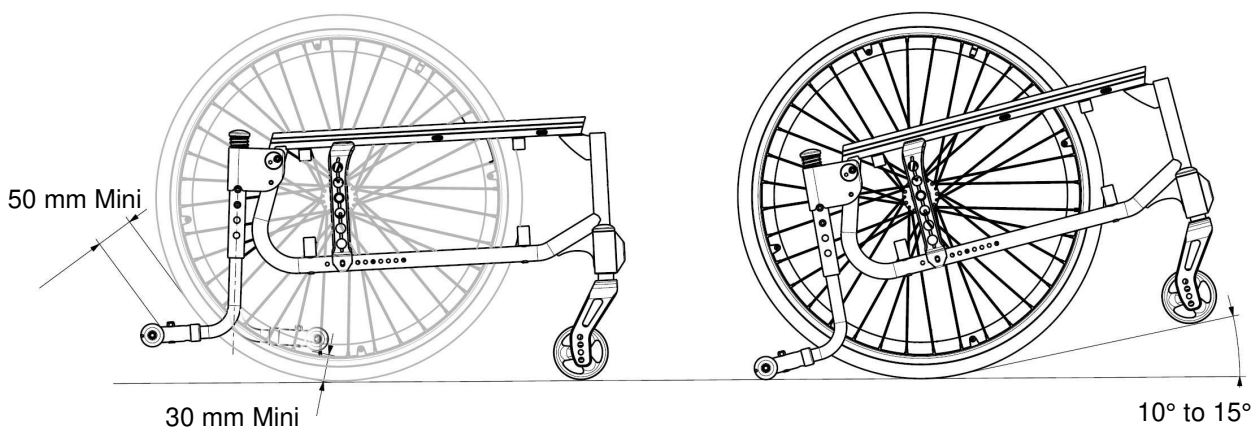

FIGURE 9.3 Adjusting Anti-Tippers when Swing Inwards
1. Remove the mounting bolts ② (M5) that secures the anti-tipper to the anti-tipper tube. Adjust the position of the anti-tipper thanks to the adjustment holes. Secure the assembly with the mounting bolts ② (M5).
2. Measure the distance between the top of the anti-tipper wheels and the rear wheel tire circumference, see FIGURE 9.3.
NOTE: For this information, refer to FIGURE 9.3.